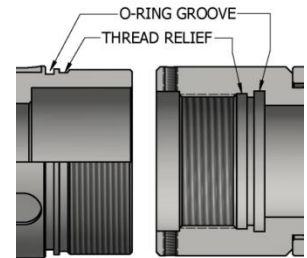

Fig. 2
**CAUTION2:** To ensure tool operates properly, install o-rings in o-ring grooves - **NOT** in thread reliefs (unless stated otherwise) (Fig. 2).